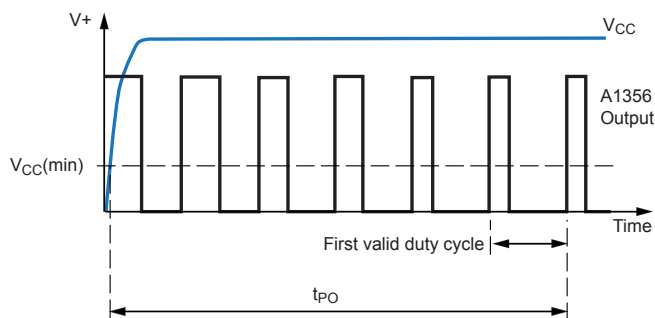

Figure 1. Definition of Power-On Time
**Power-On Time** When the supply is ramped to its operating voltage, the device requires a finite time to power its internal components before supplying a valid PWM output duty-cycle. Power-On Time,  $t_{PO}$ , is defined as the time it takes for the output voltage to settle within  $\pm 10\%$  of its steady state value after the power supply has reached its minimum specified operating voltage,  $V_{CC}(\min)$ . (See figure 1.)